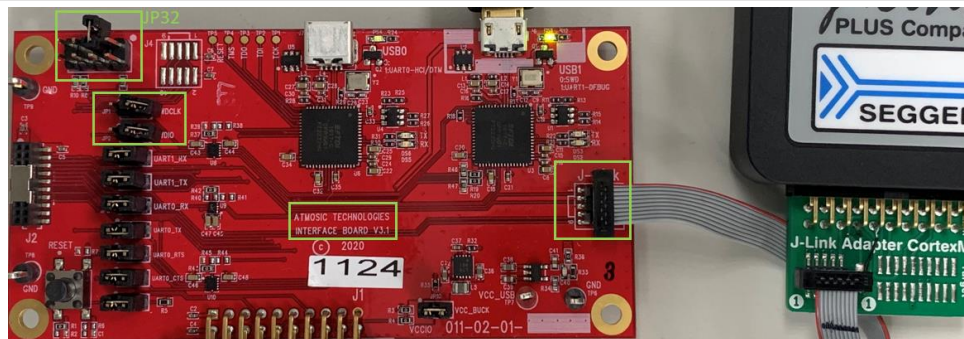

Figure 3 - Interface Board V3.x
- Figure 3 - Interface Board V3.x